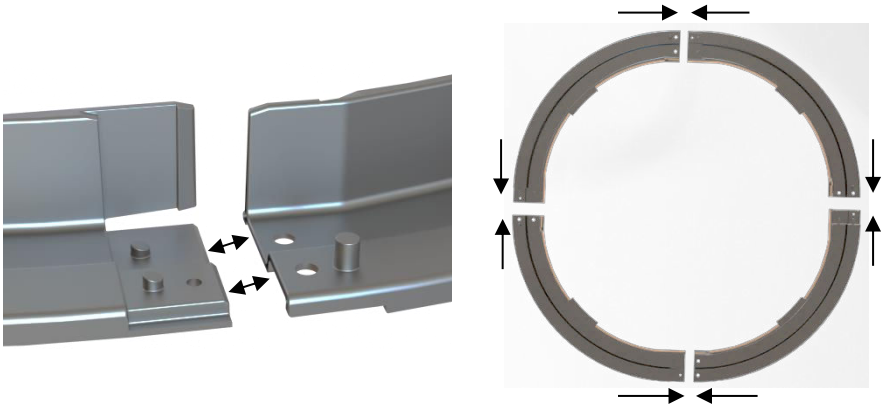

Figure 4: Assembly of connector flange
1.) Assemble connector flange by interlocking the four sections as shown in Fig 4.